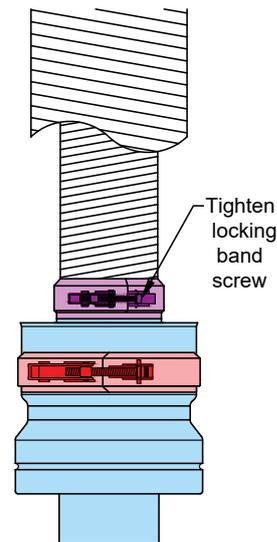

Figure 4-6: Fitting clamp band to secure inner flue liner to adaptor
8. Close the toggle clip of this locking band ensuring that the sloping top edge of the locking band grips into the corrugations of the inner liner and tighten the locking band screw using a 3mm Allen key to firmly secure the inner liner to the adaptor. Refer to Figure 4-6.